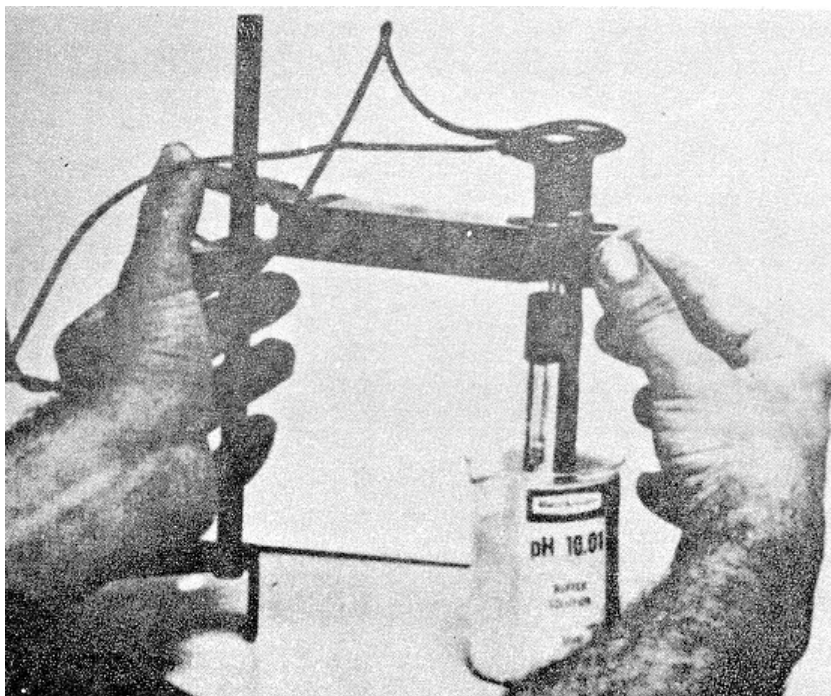

Figure 12
7. Carefully immerse the tip (approximately 1/2 inch) into the pH10 buffer solution by squeezing the rear of the electrode holder and lowering the electrodes (figure 12).